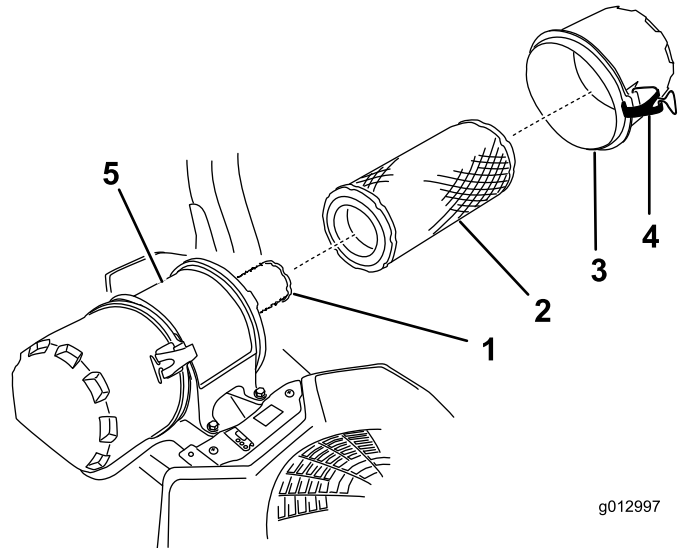

Figure 55
6. Release the latches on the air cleaner and pull the air-cleaner cover off the air-cleaner body (Figure 55).
8. Gently slide the primary filter out of the air-cleaner body (Figure 55).
- If you are replacing the safety filter, carefully slide it into the filter body (Figure 55).
- Carefully slide the primary filter over the safety filter (Figure 55).
- Install the air-cleaner cover and secure the latches (Figure 55).